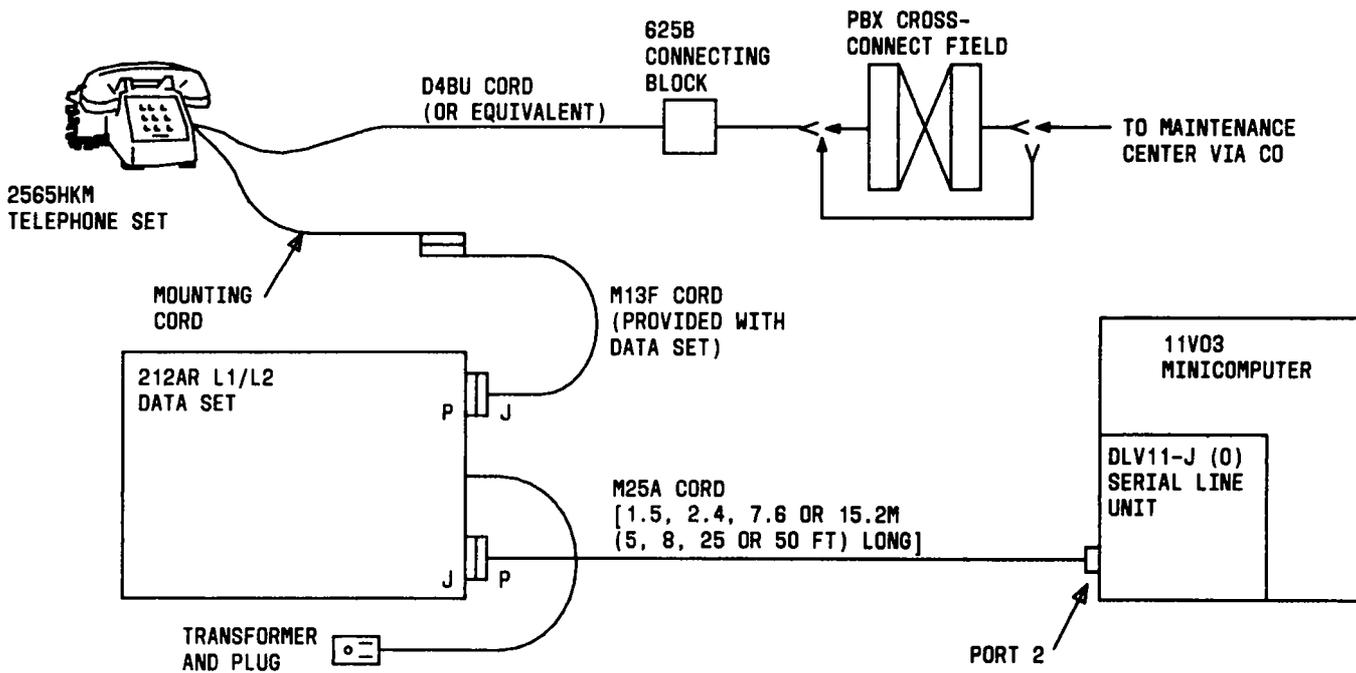

Fig. 3—Typical Maintenance Dial-up Port
**5.02** A 625S connecting block (or equivalent) should be used for maintenance dial-up port connections (Fig. 3).
**6.01** The cabling for a 2565HKM telephone set and a 212AR L1/2 data set when used for a maintenance dial-up port are shown in Fig. 3.